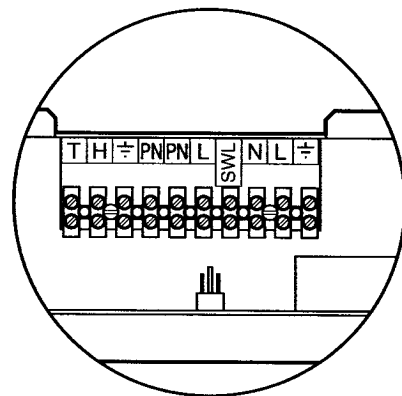

Fig. 17
6. Connect live, neutral, earth, and switched live to L, N, \ominus & SL of the terminal strip. The pump live, neutral and earth should be connected to PL, PN & \ominus of the terminal strip (Fig. 17).